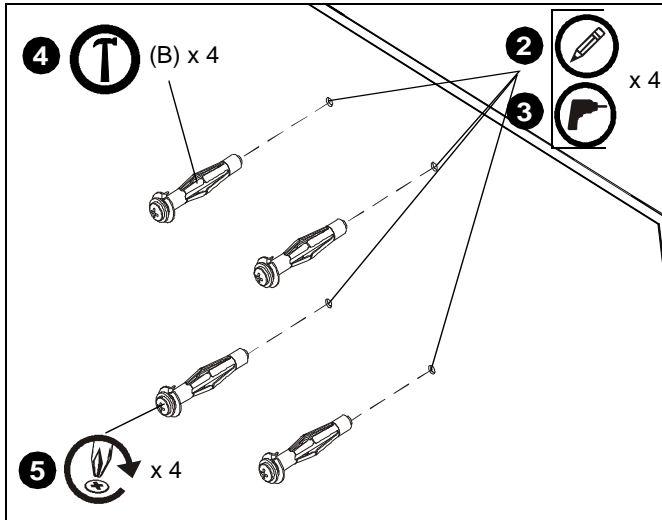
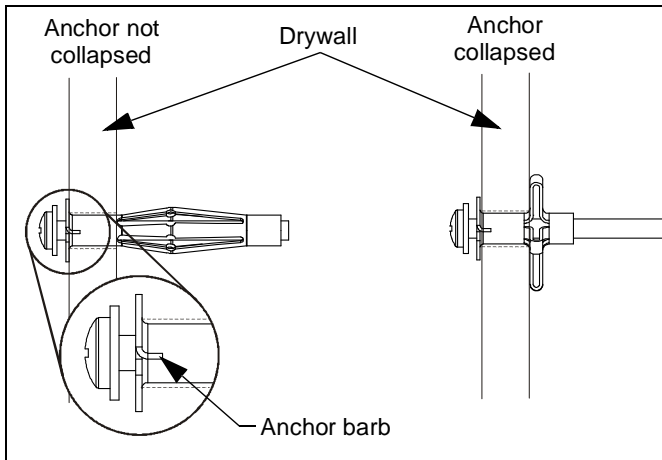

Figure 3
Figure 4
3. Drill 3/8" anchor holes. Ensure holes are straight and completely through drywall. (See Figure 3)
4. Gently tap anchor (B) into anchor hole. Anchor barbs should be fully engaged in drywall (See Figure 4).
5. Using Phillips screwdriver, tighten anchor screw until anchor has fully collapsed against back side of drywall. (See Figure 3) and (See Figure 4)